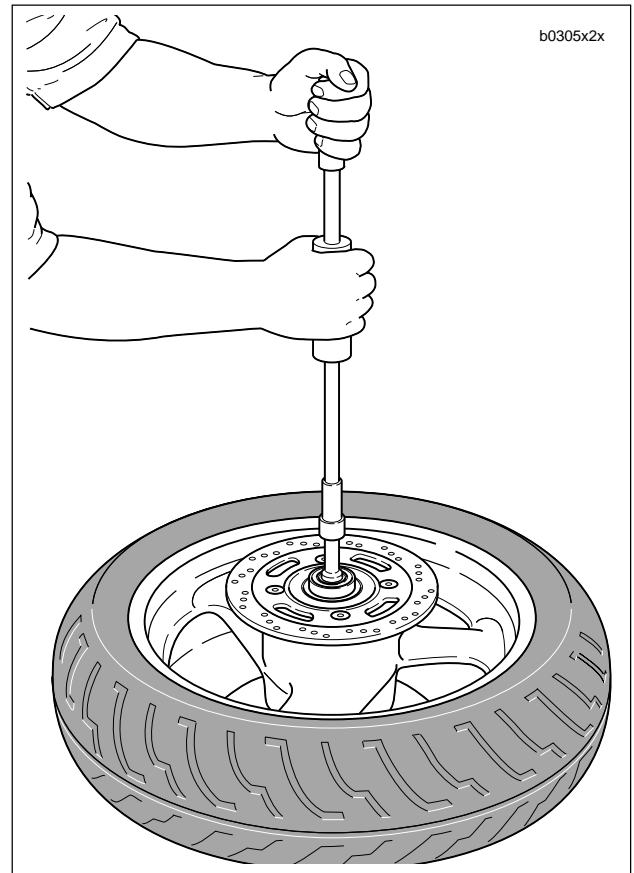

Figure 2-11. Removing Wheel Bearing
1. See Figure 2-11. Move wheel to bench area. On the brake rotor side of the wheel, remove bearing using BUSHING AND BEARING PULLER (Part No. HD-95760-69A) and 1 1/8 in. COLLET (Part No. HD-95769-69).